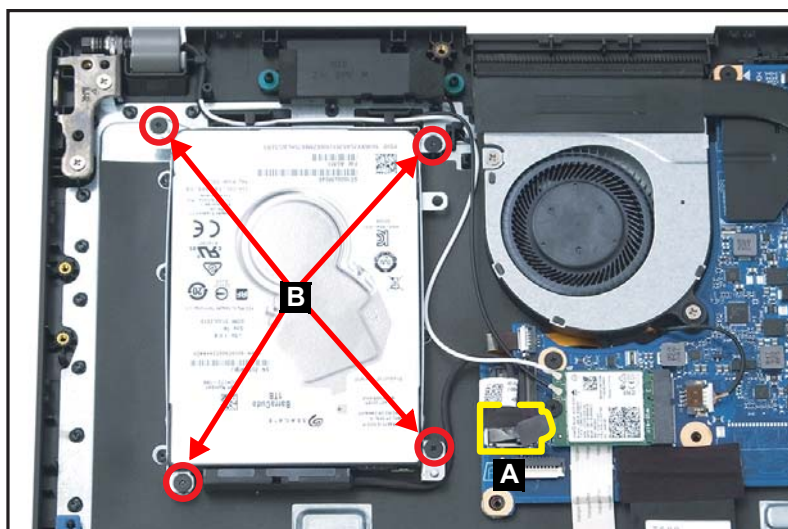

Figure 1-20. HDD Module Removal
1. Disconnect the HDD cable from the mainboard connector (A) (Figure 1-20).
2. Remove four (4) screws (B) securing the HDD bracket (Figure 1-20).